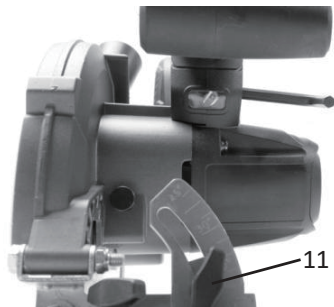

Fig. 3
5.3 Adjusting the cutting angle (Fig. 3)
- a) Loosen the locking screw for the cutting angle (11).
- c) Tighten the locking screw for the cutting angle (11).